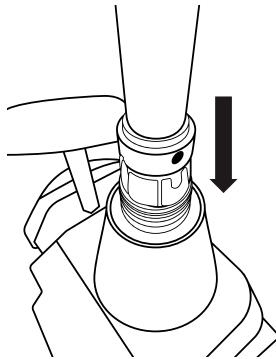

Fig. 1
1. Align the arrow rib on the shaft with the slot on the connector and push the shaft into the connector on the snow thrower. (See Fig. 1)